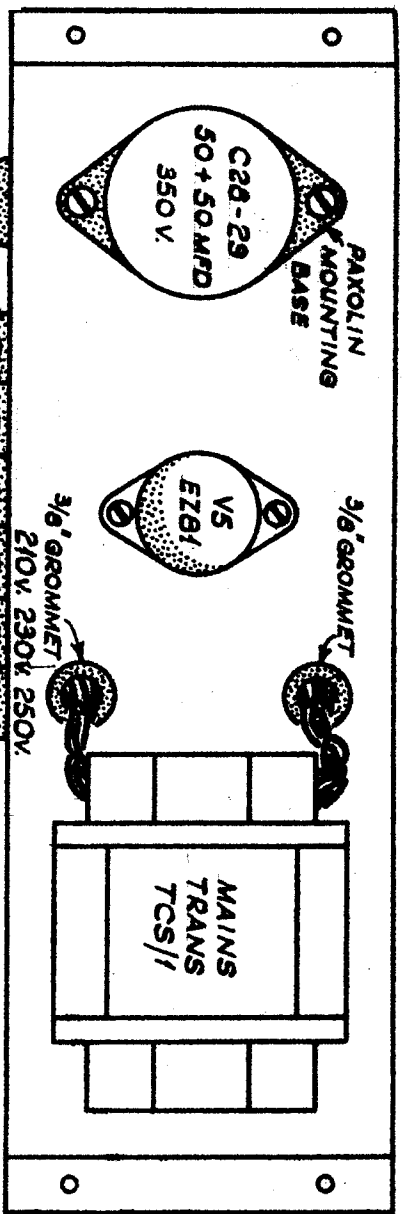

FIG. 1 TOP VIEW
POWER UNIT CONNECTION BLOCK (FIG. 1 REFERS)
1. ASSEMBLE COMPONENTS AS SHOWN IN FIGS 1 & 3. LIGHTLY TWIST TOGETHER A.C. CARRYING LEADS TO PREVENT HUM RADIATION - SHOWN THIS WAY. ENSURE CORRECT CONNECTIONS TO THE SIX-WAY CONNECTION BLOCK OTHERWISE SERIOUS DAMAGE TO THE POWER UNIT MAY RESULT.